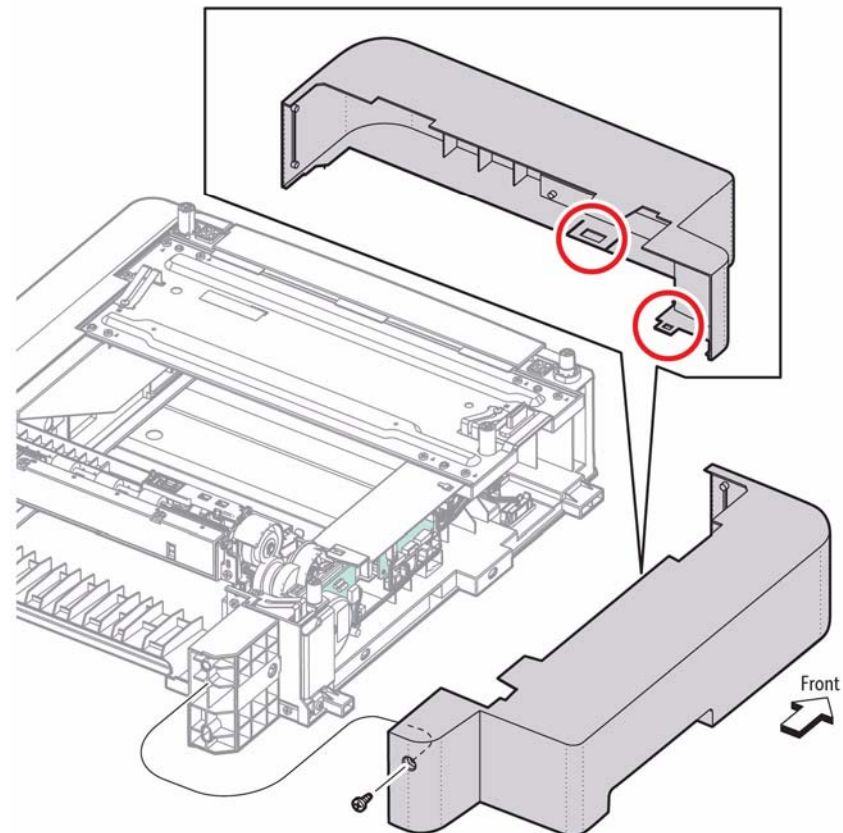

Figure 1 Remove the Left Side Cover
3. Refer to Figure 1 to locate and remove 1 screw (silver, tapping, 8mm) and release 2 tabs to remove the left side cover.